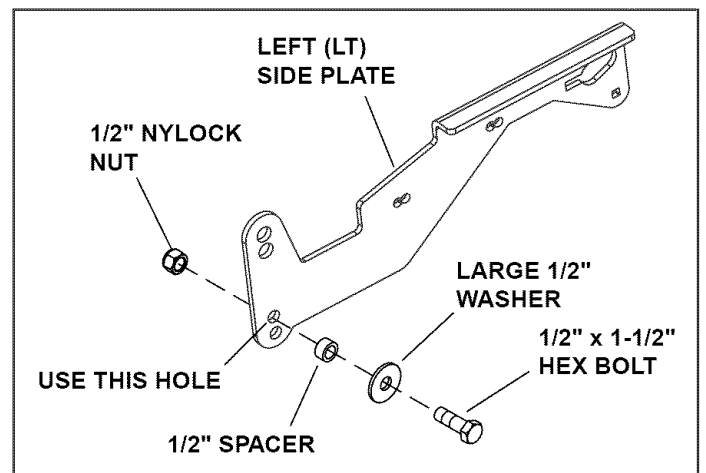

FIGURE 18
STEP 20 - INSTALL (LT) SIDE PLATES
- Install a large 1/2" washer and a 1/2" spacer onto a 1/2" x 1-1/2" hex bolt. Install the bolt into the hole shown in the left (LT) side plate, and fasten using a nylock nut. Repeat the step for the right side plate, but install the bolt, flat washer and spacer from the opposite direction. See figure 18.